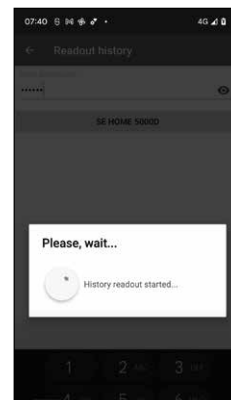

Fig. 92
- 7 The history data is now retrieved from the cylinder and stored in the app as a log file (Fig. 92).